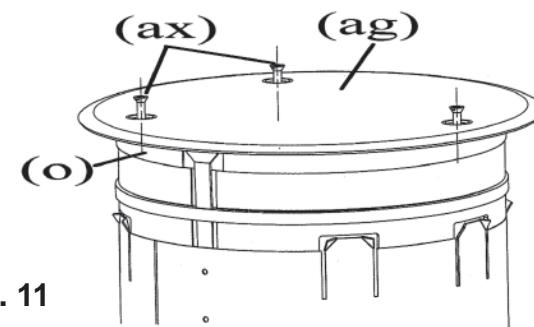

Fig. 11
- Remove cover assembly by removing screws (ax) attaching cover to the can. See Figure 11.
2. Retirer le couvercle en enlevant les vis (ax) rattachant le couvercle de la boîte. Consulter la Fig. 11.